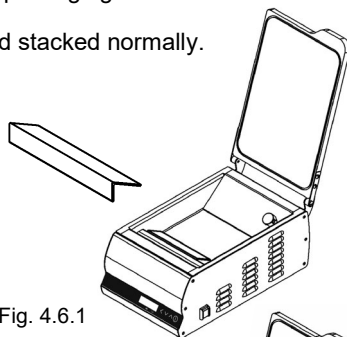

Fig. 4.6.1
If the operator wants to interrupt the cycle before it ends, he must press the switch-on key ref. 2 fig 4.6.1.